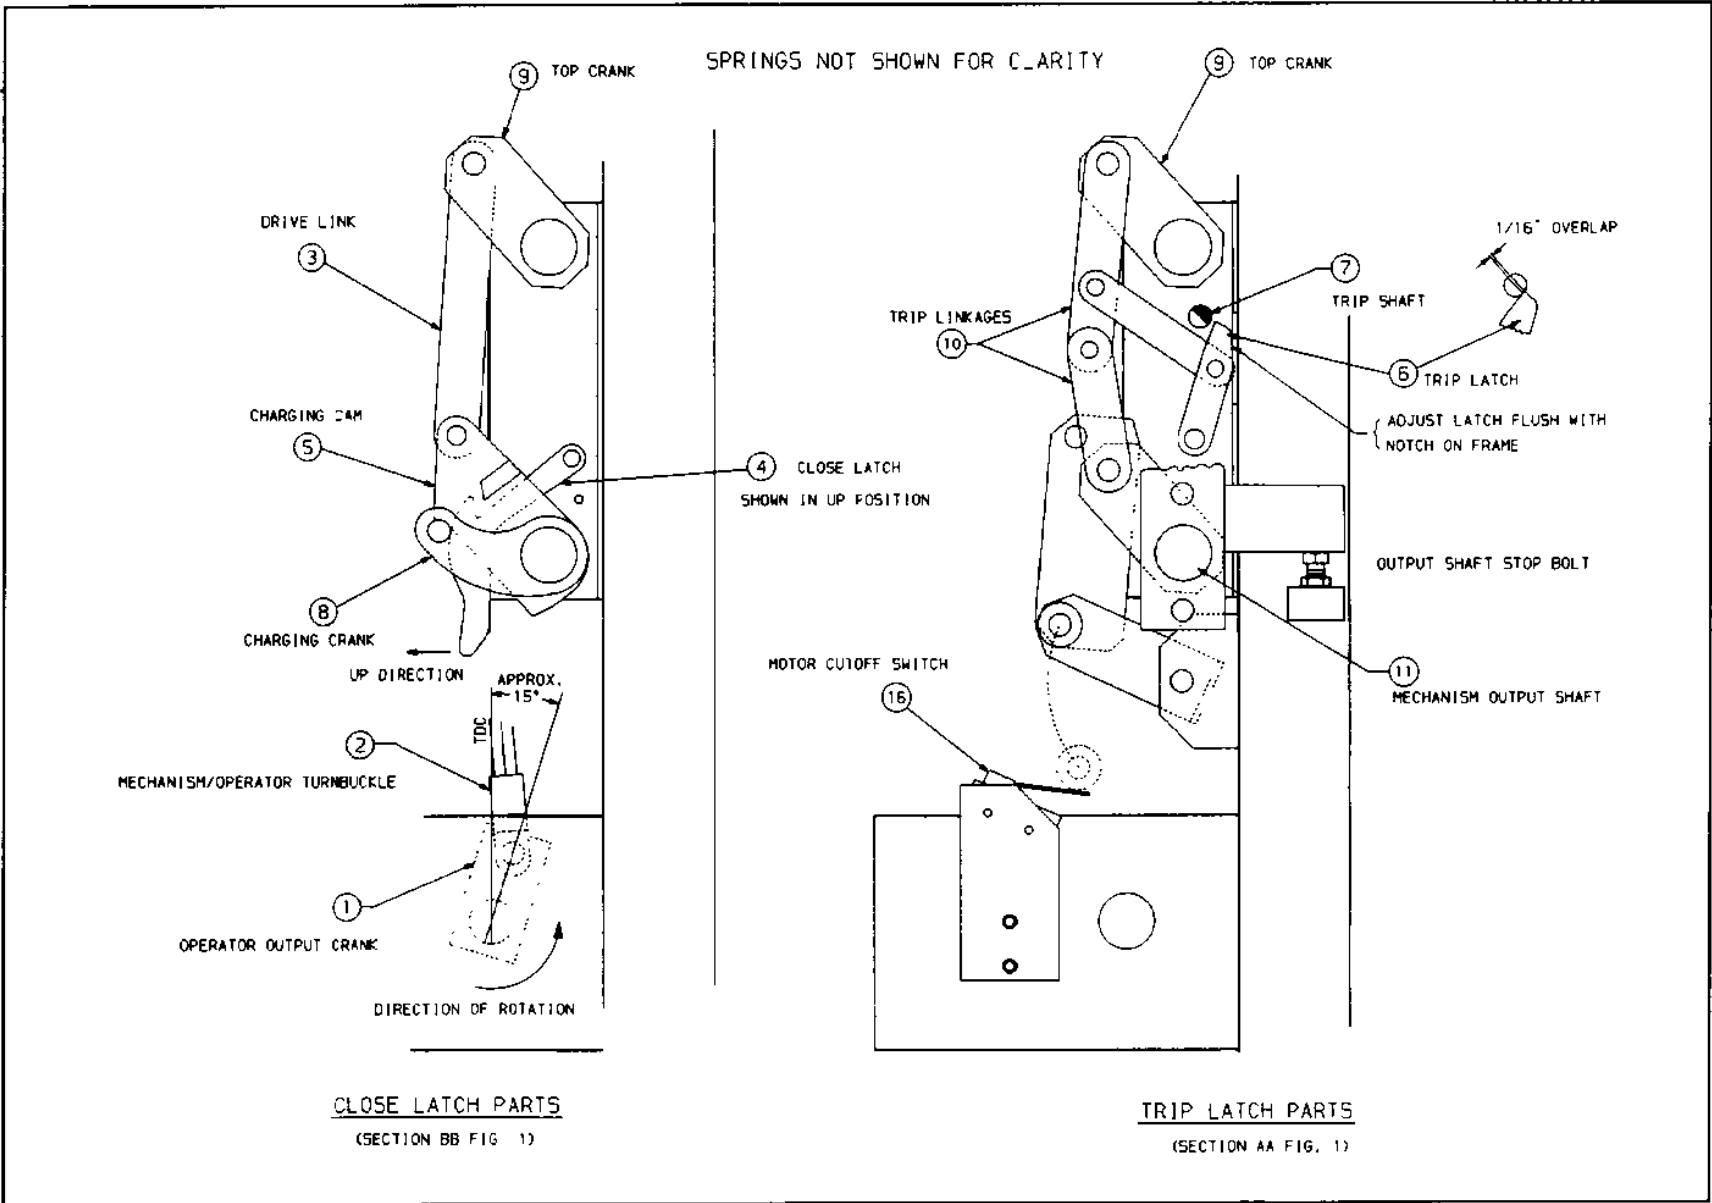

Figure 6a
5.1 Closing—See Figures 6A, 6B, 6C.
5.2 Opening Operations—See Figures 6A, 6B, & 6C.